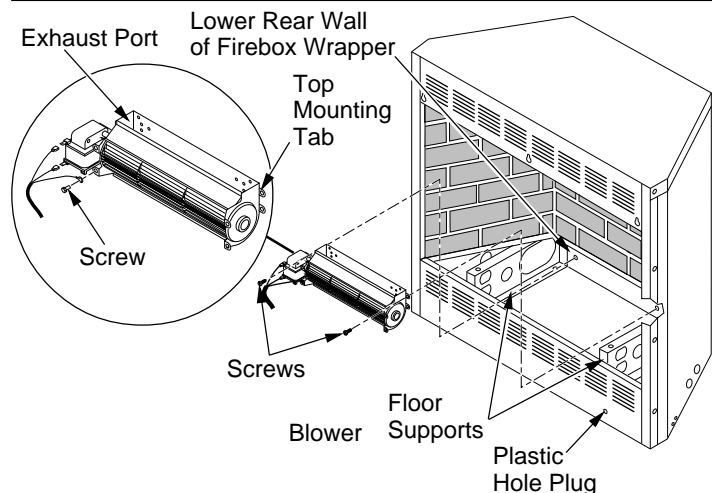

Figure 2 - Mounting Blower to Firebox
3. Attach green ground wire from power cord to blower housing using screw provided (see Figure 2). Tighten screws securely.
4. Place the blower against lower rear wall of firebox wrapper with the exhaust port directed upward. Align the holes in top mounting tabs of blower with holes in wall of wrapper (see Figure 2). Using 2 screws provided, mount blower and tighten screws securely.
6. Locate the plastic hole plug installed in the 3/8" diameter opening in the lower right side of the firebox front panel (see Figure 2). Remove the plastic plug and discard.